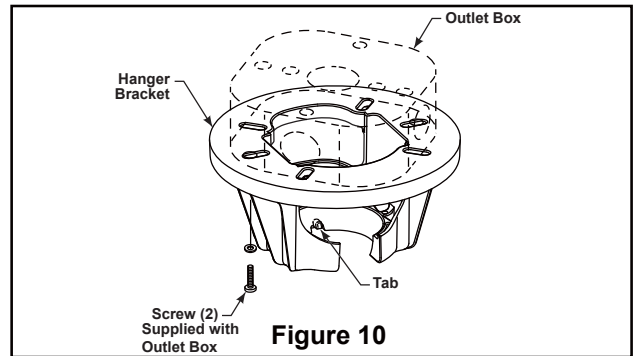

Figure 10
- 1. Securely attach the hanger bracket to the outlet box using the outlet box screws and washers supplied with the outlet box. (Figure 10)